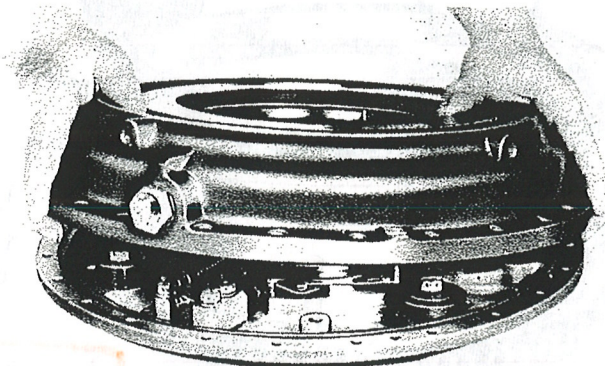

Figure 148—Installing Regulator Cover
(12) Lubricate the cover bearing and seal with regulator fluid, then place the regulator cover over the housing. (See figure 148.) Align the dowels of the cover with the dowel holes in the housing.